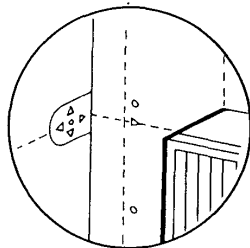

Fig. 36
7. From the wall template cut out the 'D' shaped section. Using this as a template, line up the horizontal triangular cut outs with the extended 300mm (12 in) line and make sure that the flat of the template is butted up against the corner of the wall (Fig. 36).